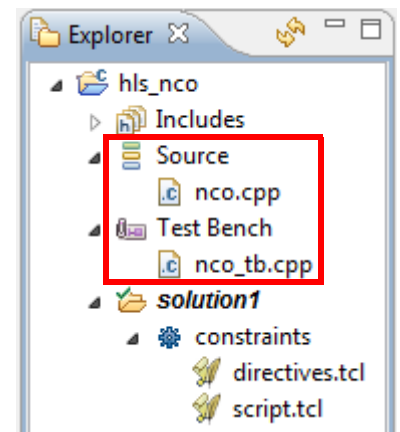

Figure 4.28: Vivado HLS Explorer panel
- (h) In the *Explorer* panel, expand the **Source** and **Test Bench** headings. You should see the source files that we specified in the *New Project Wizard*, as in Figure 4.28.